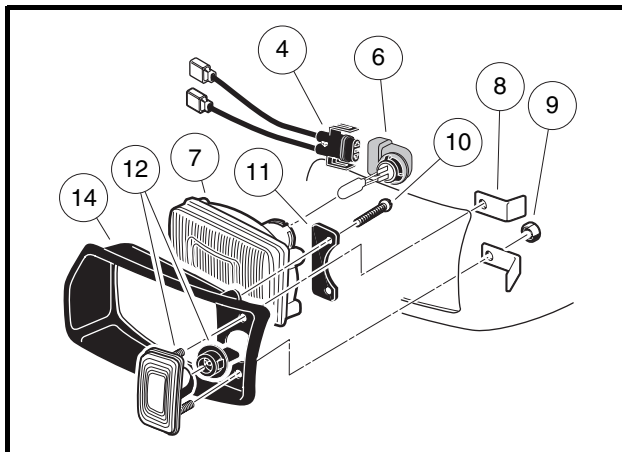

Figure 12-29 Headlight Assembly
3. From the front of vehicle, reach under cowl and turn the wire harness/halogen bulb assembly (4 and 6) clockwise one-quarter turn (**Figure 12-29, Page 12-26**).
4. Remove the wire harness/halogen bulb assembly (4 and 6) from the headlight lens (7).
5. Lift the retaining tabs on the connector (4) and remove halogen bulb assembly (6).
1. Connect wire harness (4) to the halogen bulb assembly (6). The retaining tab should lock onto the halogen bulb assembly (**Figure 12-29, Page 12-26**).
2. From the front of vehicle, reach under cowl and insert wire harness/halogen bulb assembly (4 and 6) into the headlight lens (7).